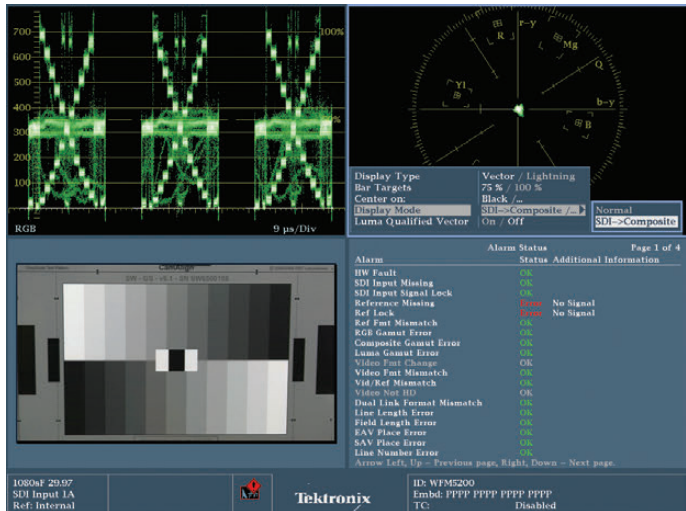

Figure 6-5. The steps 5-9 of “Creating a Preset” end with recalling and editing the options for the vectorscope menu.
9. To customize the vectorscope, hold down the VECTOR button for two seconds. A dialog box will offer choices of Display Type, Bar Targets, Center On, Display Mode and Luma Qualified Vector. Use the arrow keys, similarly to customizing the waveform display. For Display Type, choose Vector. For Bar Type, choose whichever is right for the bars you output for setting up, but if you’re unsure, choose 100% bars. For Center On, choose Black. To choose the “traditional” vectorscope look, under the Display Mode menu, choose SDI-> Composite mode. For a cleaner look, choose Normal. For Luma Qualified Vector, choose Off (Figure 6-5).